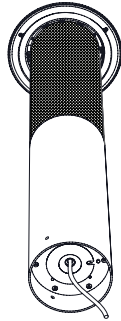

Figure 11
2. Route the pigtail 4-conductor wire through the central hole in the mounting bracket as shown in Figure 11.